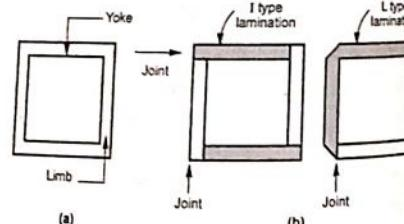

Fig. 5.3.1 Construction of transformer
- The core of the transformer is either square or rectangular in size. It is further divided into two parts. The vertical portion on which coils are wound is called limb while the top and bottom horizontal portion is called yoke of the core. These parts are shown in the Fig. 5.3.1 (a).
- Laminations are overlapped so that to avoid the air gap at the joints. For this generally 'L' shaped or T shaped laminations are used which are shown in the Fig. 5.3.1 (b).